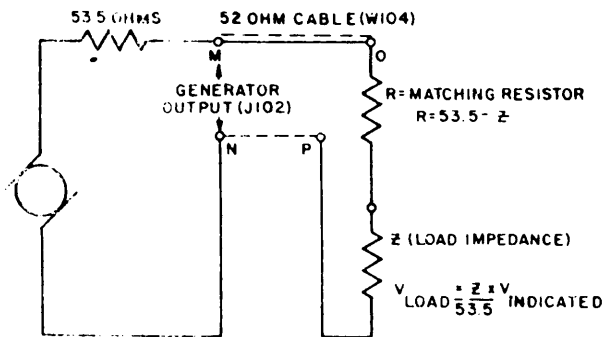

Figure 2-13. Equivalent Circuit of X MULT RF OUTPUT (J-102) with Series Matching Resistor Added
g. When the load impedance is less than 53.5 ohms, the impedance adapter cannot be used. In this case, a non-inductive composition resistor should be added in series with the input element at the receiver under test, so that the sum of the receiver input impedance and this receiver under test, so that this resistor will be 53.5 ohms (See figure 2-13). The total load impedance will then match the signal generator impedance at J-102 and standing waves will be minimized. The actual receiver input voltage can then be calculated from the formula indicated in figure 2-13. W/hen applying this procedure, it will probably be necessary to file down a larger standard resistor to get the precise value required. Use the Resistance Bridge ZM-4/U or equivalent to measure the resistance. For example; if the load impedance of the receiver (Z) is equal to 30 ohms, a series resistor (R) of 23.5 ohms must be added in series with the receiver. A meter (M-101) indication of 10, 000 microvolts will then represent an actual receiver input as follows: